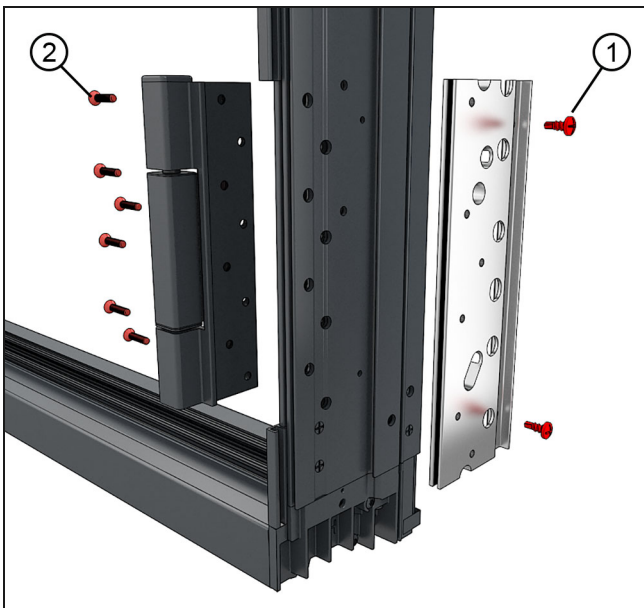

Figure 19
2. If you are mulling to the **Inswing hinge side**, remove the two fasteners that attach the backer to the jamb and the six fasteners that attach the hinge to the backer. See Figure 19.